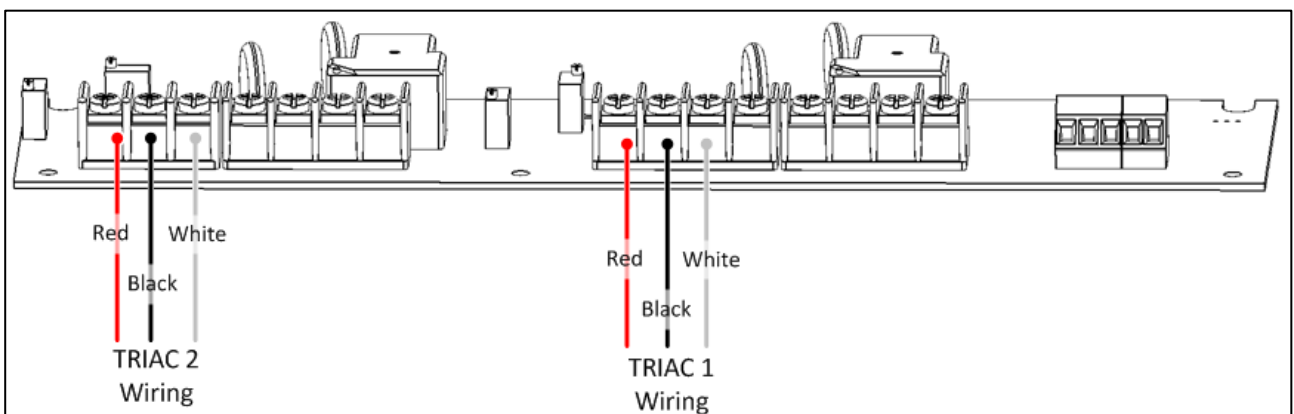

Figure 47: Variable speed card to TRIAC wiring
4. Wire the Variable Speed Card to TRIAC (Figure 47).